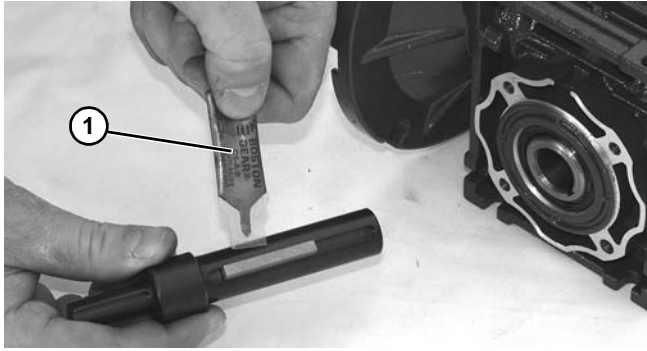

Figure 32
4. Apply anti-seize (**Figure 32, item 1**) to shaft.